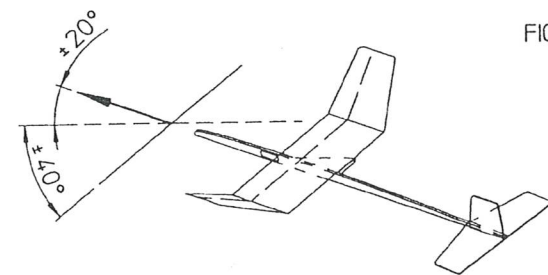

FIGURE 10
Step 2: adjusting the glide turn. At Step 1 you could have seen whether the model has a tendency to turn. It should be a not too tight turn to the left. We will now throw the model harder in a direction such that it will smoothly go into a left turn. So: point it left from the prevailing wind direction, nose slightly upwards and banked to the left about 40° (see figure 10).